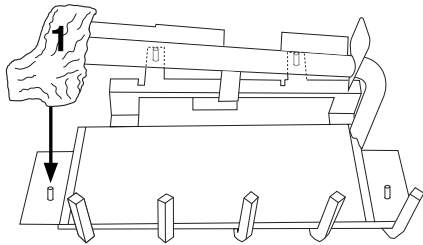

Figure 23 - Installing Log #1, Model CD42M-A
1. Place log #1 (small base log) onto pin on left side of grate extension (see Figure 23).